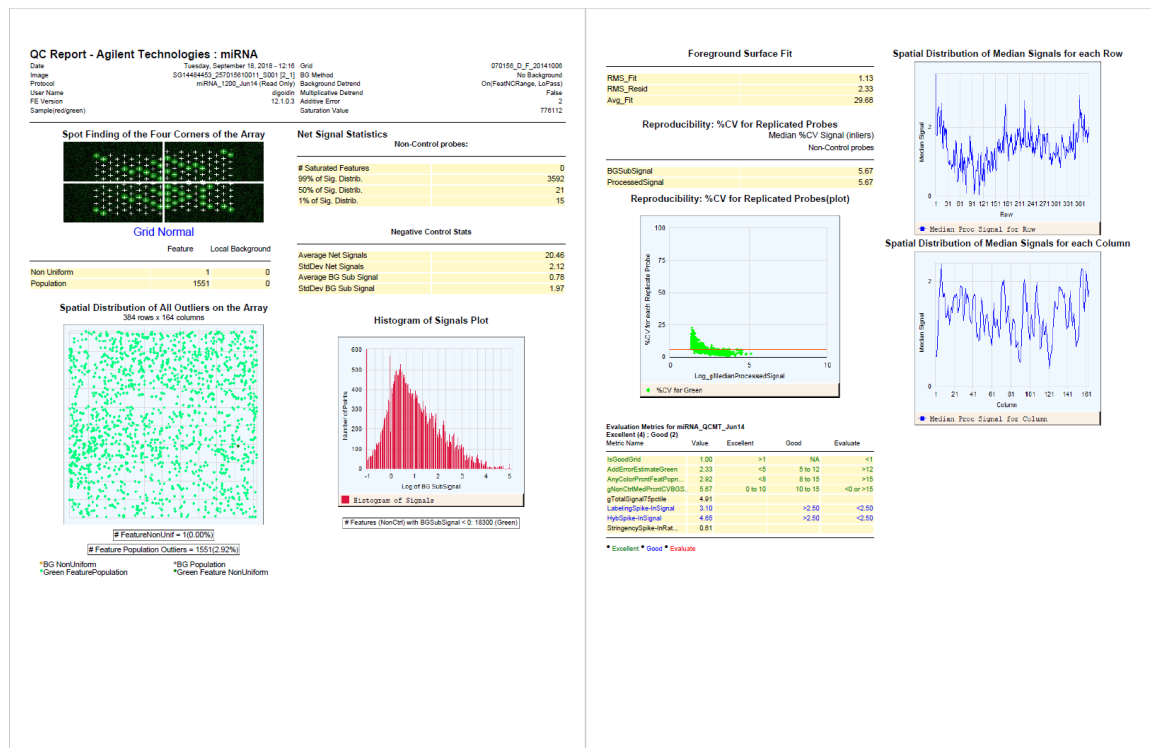

Figure 25. Example of a QC Report for an Agilent miRNA microarray, generated by Feature Extraction version 12.1 with the use of Spike-In miRNAs.
- 8 After the extraction is completed successfully, view the QC report for each extraction set by double-clicking the QC Report link in the **Summary Report** tab. Determine whether the grid has been properly placed by inspecting Spot Finding at the Four Corners of the Array. See **Figure 25**.